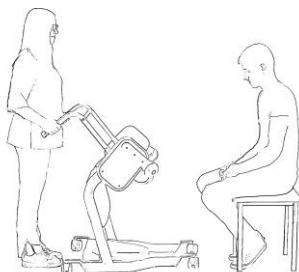

Fig. 1
- 3 Approach the patient. (See Fig. 1.)